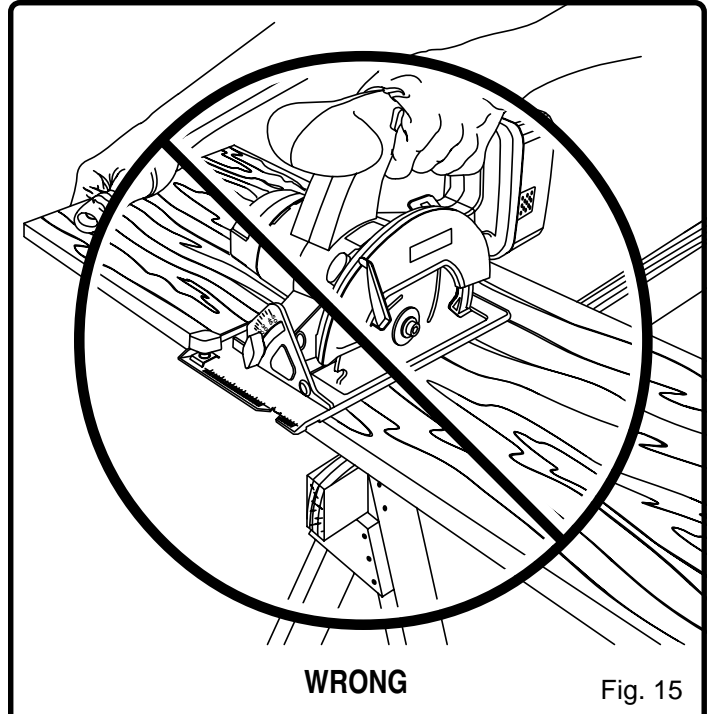

Fig. 15
**Never place your saw on that part of the workpiece that will fall off when the cut is made.** See *Figure 15*.